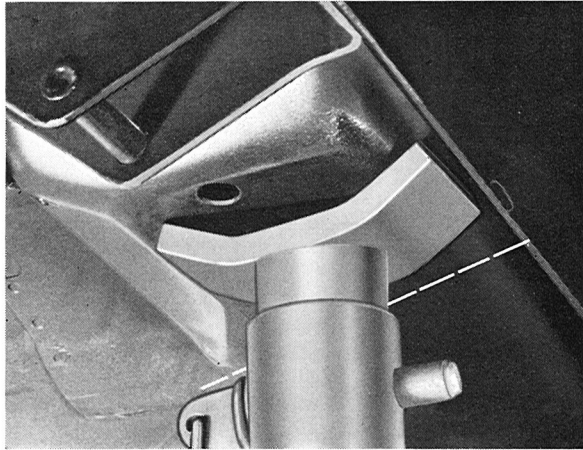

Fig. 4-153. Locating rear axle stand
1. Place blocks in front of the front wheels and loosen the rear wheel nuts. Place fixture 2714 on a jack and lift the rear axle. See also Fig. 4-181. Place stands in front of the rear jack attachments, see Fig. 4-153, and then lower the jack slightly. Note that the stands must not be placed at a point further than the dash line indicated in the figure. Remove the rear wheels.